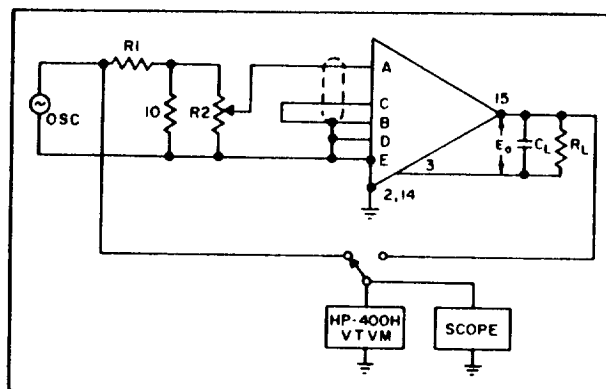

Figure 6-1. Frequency Response Test Circuit ( $G > 1$ )
- 1) Connect the amplifier as shown in Figure 6-1. R2 should be a multiturn potentiometer to provide the required resolution. Select R1 to provide the necessary attenuation at the desired gain setting of the amplifier. The load resistance and capacitance can be any value within the load specifications.